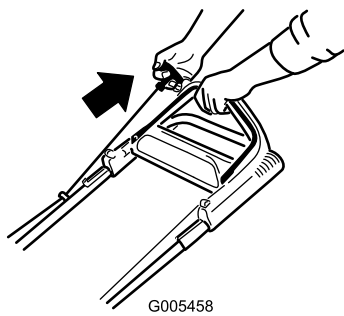

Figure 13
2. Pull the recoil starter (Figure 13).